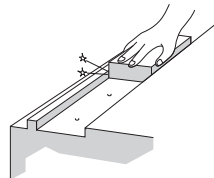

Fig. 6: Checking the Mounting Surface
- (1) Be sure to remove burrs, dents, and dust from the mounting surface of the machine to which the LM Guide is to be mounted before installing the LM Guide. (Fig. 6)